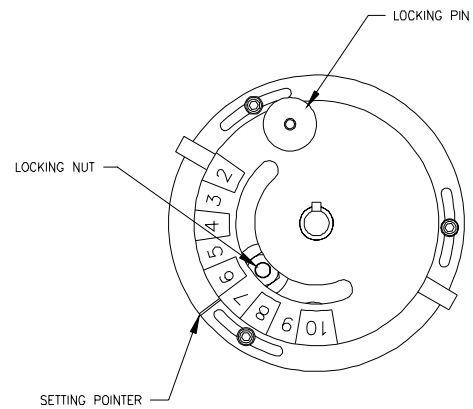

FIGURE 13
EXAMPLE: MAXIMUM setting of 58.1 oz/min [17.0 dl/min]; MINIMUM setting of 10.3 oz/min [3.0 dl/min] = pump setting 6 (See Figure 13).
- 1) Loosen the pump-setting locking nut, pull out on locking pin and rotate the 2-10 setting pointer to the proper number. (See Figure 13).